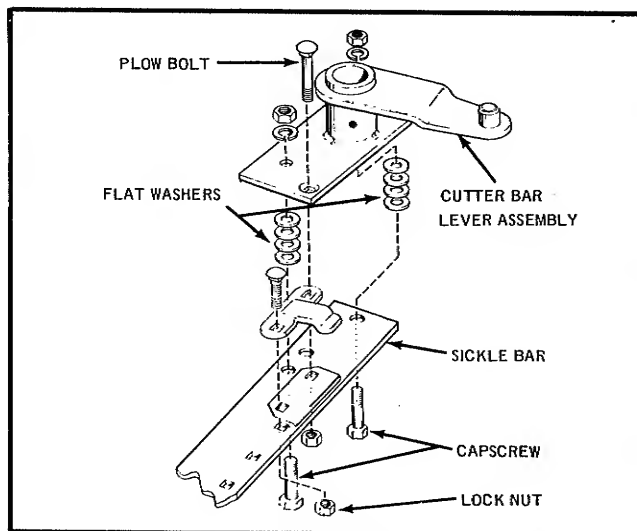

FIGURE 2
3. Attach the sickle bar assembly to the bottom plate of the cutter bar lever assembly, using two hex capscrews and one plow bolt. Refer to Figure 2. To each of the capscrews, add four flat washers to act as spacers between the cutter bar lever assembly and the sickle bar assembly. Add one flat washer as a spacer for the plow bolt. Secure with lock washers and hex nuts. The plow bolt uses a lock nut instead of a lock washer and hex nut.